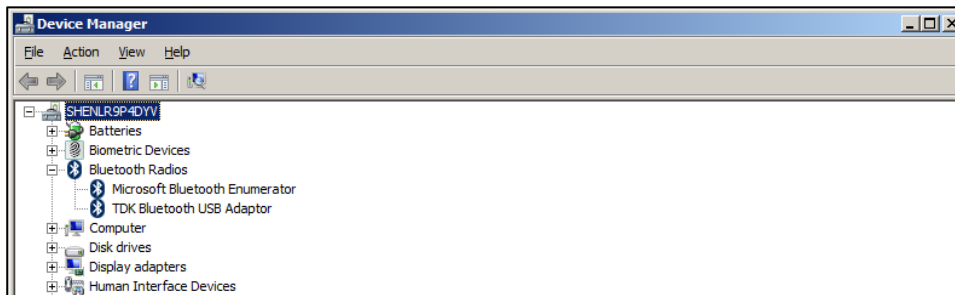

Figure 4: Windows Device Manager
3. Once installed, check the Windows Device Manager (Figure 4). Note the presence of the Microsoft Bluetooth Enumerator and TDK Bluetooth USB Adaptor. These indicate a successful installation.